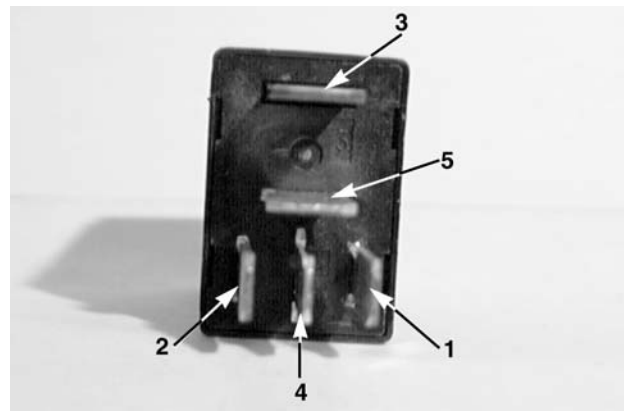

Figure 9-92
3. Place the relay on a flat surface and identify the corresponding male terminals. See Figure 9-92.